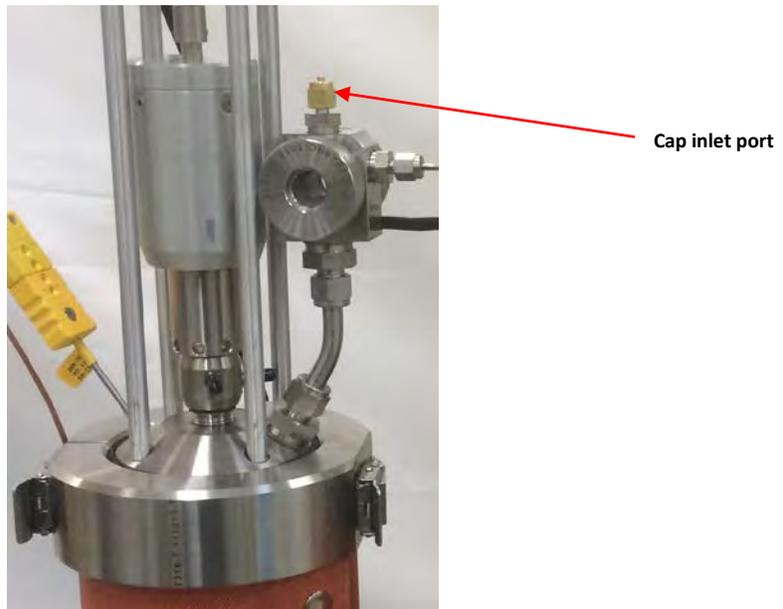

Figure H15 – Cap reservoir #1 inlet port
5. Cap the reservoir #1 inlet port with a cap nut (figure H15) and securely tighten (this will be under pressure during a test).